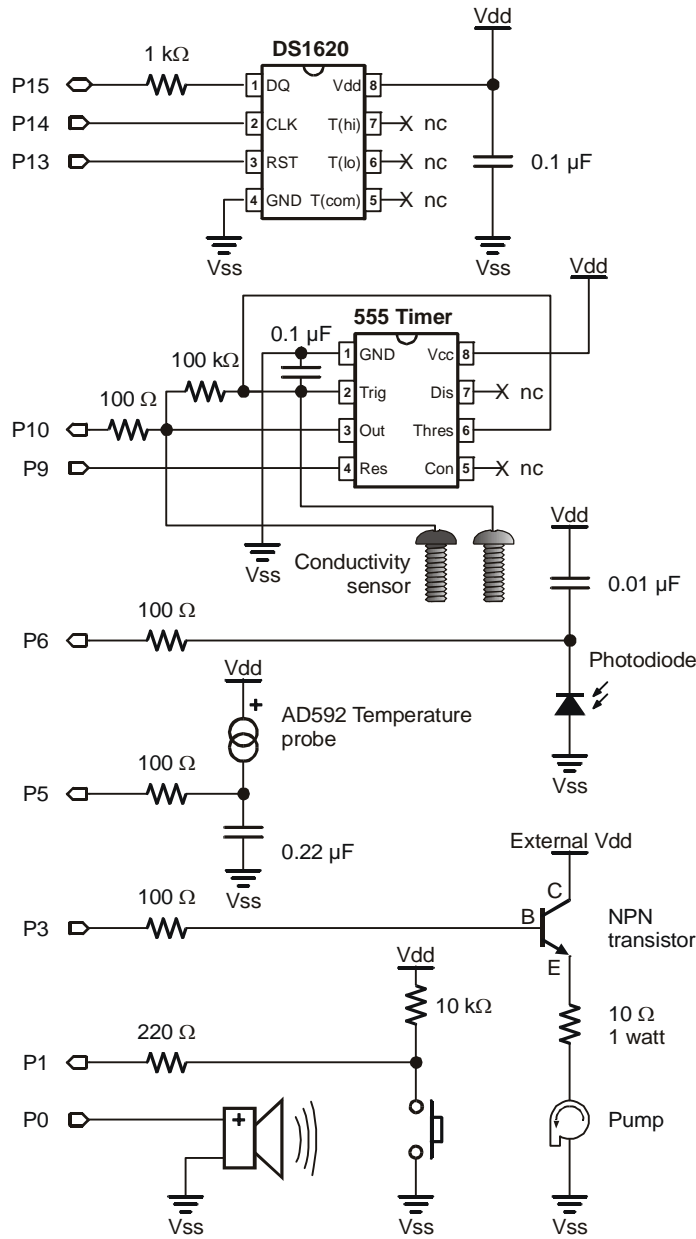
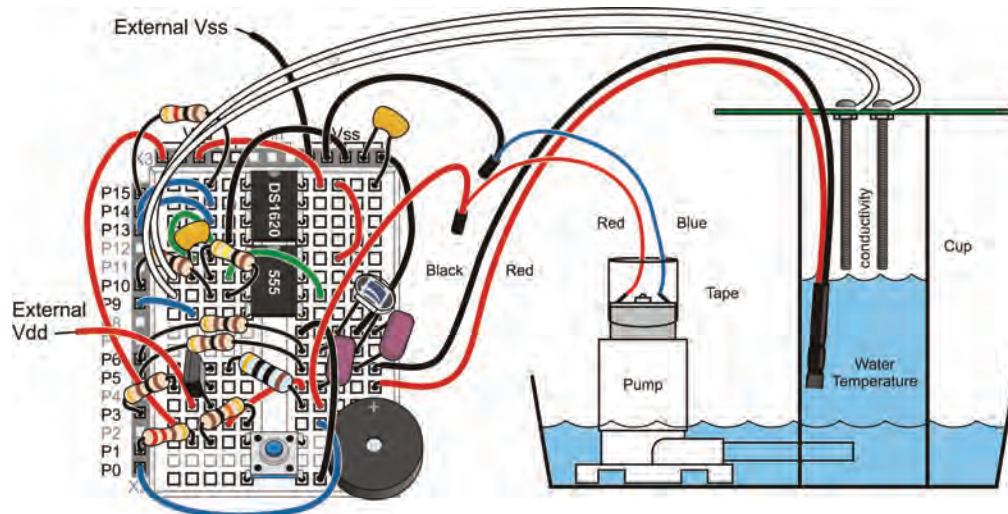

Figure 6-2
Figure 6-3: Pump Control with Transistor Wiring Diagram
- √ Follow the schematic in Figure 6-2 and the wiring diagram in Figure 6-3 to add the transistor and pump circuit to your board.
- √ As shown in the schematic in Figure 6-3, connect the collector of the transistor to the external regulated 5 VDC 300 mA power supply.
- √ For the moment, lay the conductivity sensor aside, but it will rest across the rim of the cup as shown in Figure 6-3 later on in the experiment.